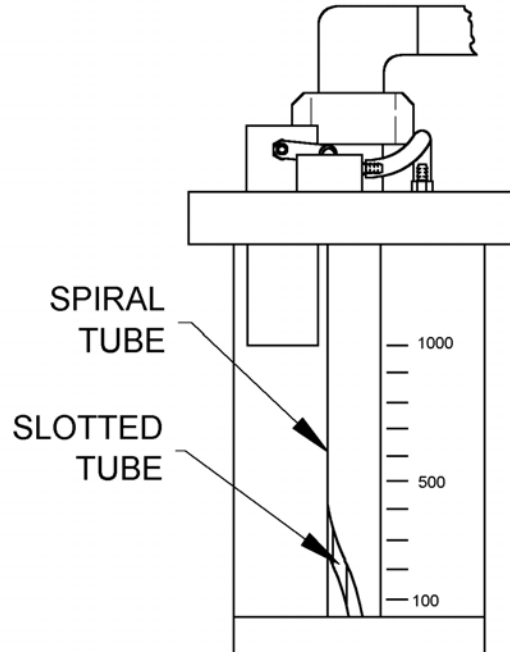

Figure 1-9. Setting the Sample Size.
2. Twist the spiral tube so that its opening aligns with the inner slotted tube at the level corresponding to desired sample volume. See Figure 1-9. Make sure the spiral tube stays seated up against the bottom of the chamber top.